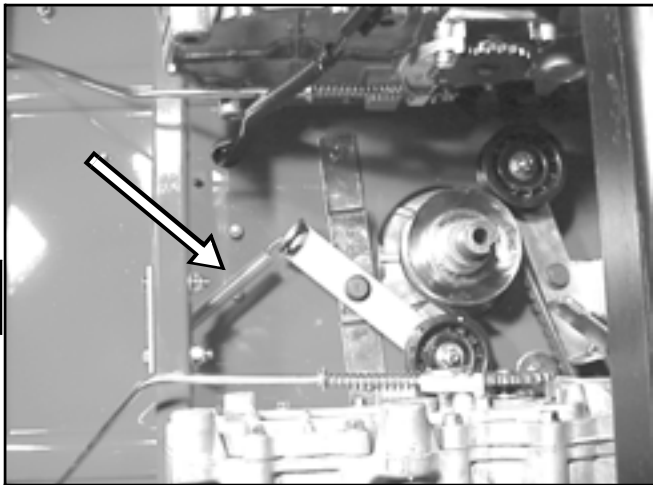

Figure 26
1. Install belt around the upper groove of the engine drive pulley and then around the right side transaxle pulley. Install idler spring to the front spring bracket (Figure 26).